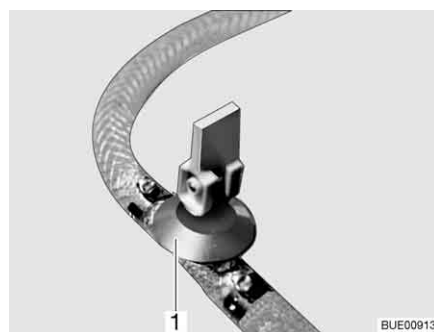
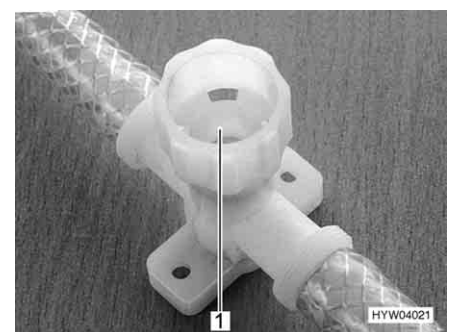

Fig. 209 Drain cock (with rocking lever)
Fig. 210 Drain cock (with twist cap)
- Close all drain cocks. To do this, position the drain cock's rocking lever (Fig. 209,1) horizontally or turn the drain cock's cap (Fig. 210,1) in a clockwise direction.